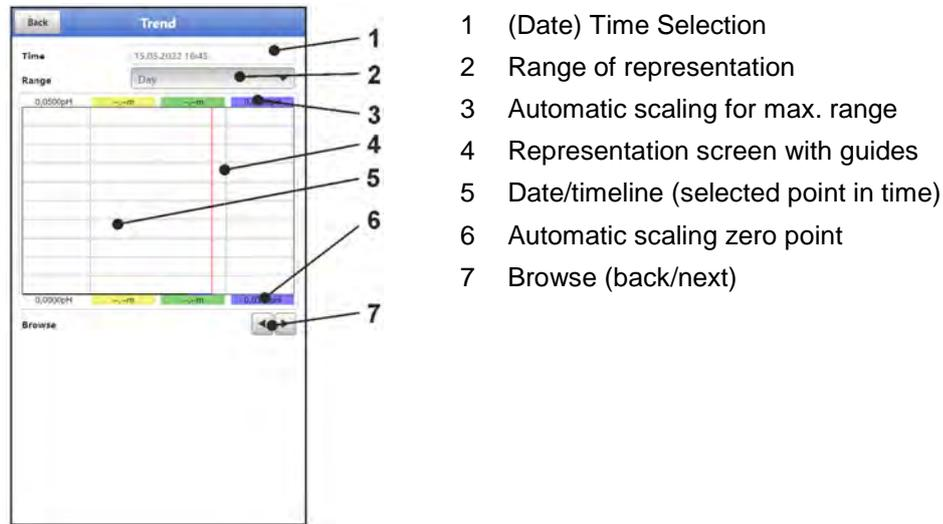

Fig. 39-2 Representation Trend Graph
1. Select the desired range (range of representation; Fig. 39-2 Pos. 2). The selected range is displayed.
2. If necessary, use the arrows (Fig. 39-2 Pos. 7) to scroll forwards and backwards with the same basic display setting.
When the Trend menu is opened, the current date and time are displayed. If historical measurement data or a specific point in time is to be displayed, this can be set via the date/time selection (Fig. 39-2 Pos. 1). The selection mask shown below opens here (Fig. 39-3). If a start date is selected, (depending on the range set) the measurement data is shown in the display area below.